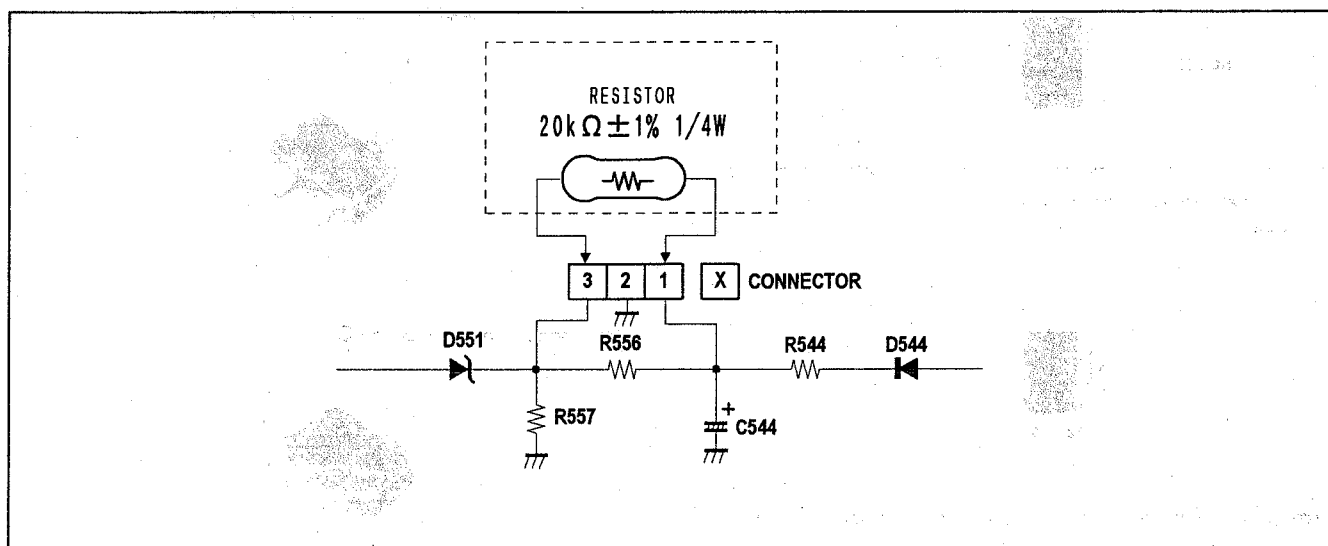

Fig.2
- (1) Turn the POWER SW ON.
- (2) As shown in Fig.2, set the resistor (between ☒ connector 1 & 3).
- (3) Make sure that the screen picture disappears.
- (4) Temporarily unplug the power cord.
- (5) Remove the resistor (between ☒ connector 1 & 3).
- (6) Again plug the power cord, make sure that the normal picture is displayed on the screen.